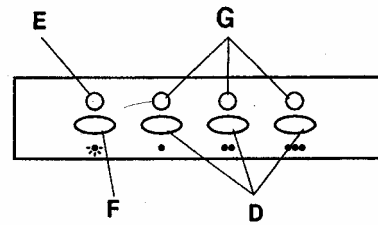

Fig.5
- 3 position switch controls the motor (1st, 2nd, and 3rd speed) (Figure 5, Ref. D).
- Lighting control lamp. Fig. 5, Ref. E.
- Motor controls lamps. Fig. 5, Ref. G.
- Light switch (Figure 5, Ref. F).